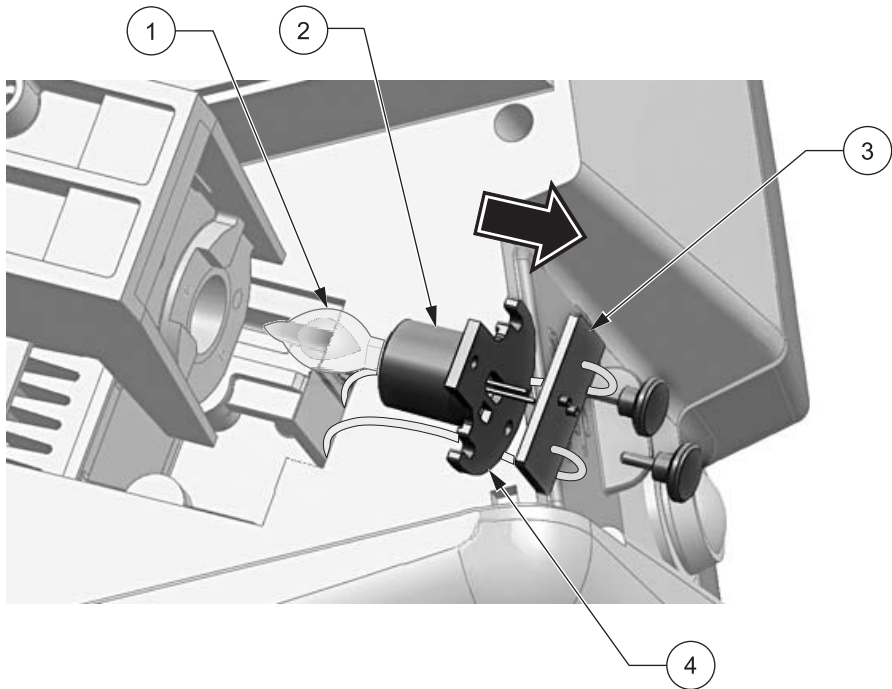

Figure 13 Replacing the Lamp
10. Carefully remove both knurled screws (Figure 13 on page 77).